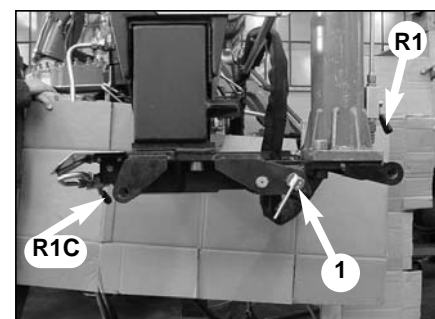
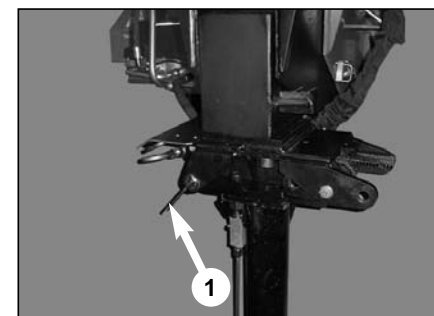

fig. 15
fig. 16
- **rotation of the outrigger ram n°1 from the rest position (fig. 15) to the working condition (fig. 16)**